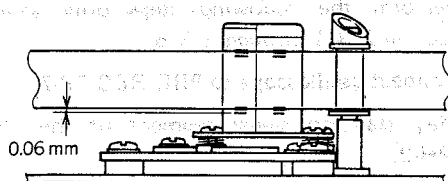

Fig. 2-47 Audio/control head height
10. Carefully and evenly adjust screws (A), (B) and (C) to align the audio/control head height with the tape as shown in Fig. 2-47.